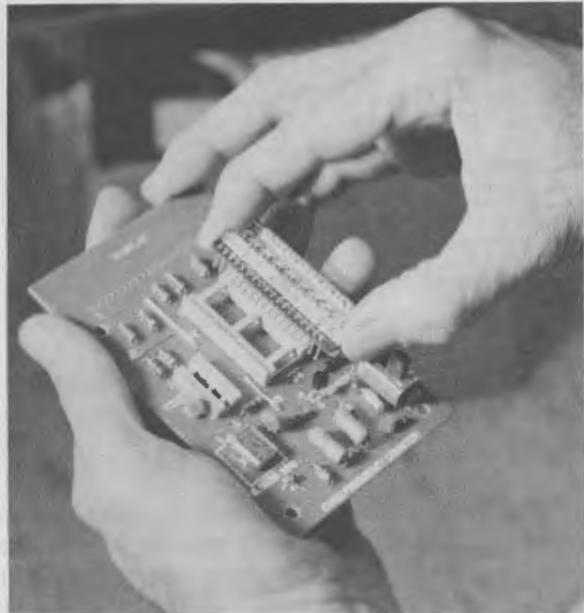

Fig. 6. Using the display connector pins to exercise the 28-pin socket.
(6) There are 14 pins on each side of the connector, so when you insert the pins of the display connector into the socket, four of the pins will *not* go into the socket. Insert and remove the display connector from the IC socket as shown in Fig. 6. Do this several times on each side of the socket ..... ( )